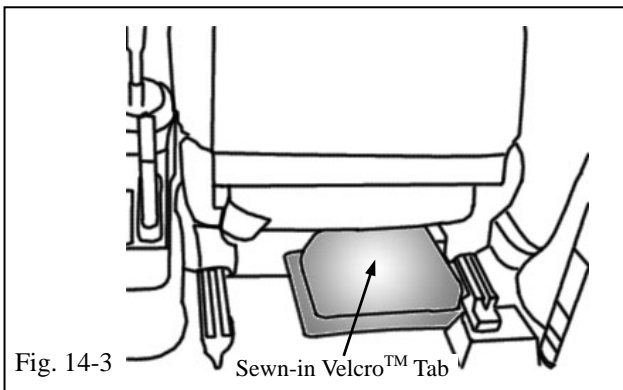

Fig. 14-3
- (g) Press the sewn-in Velcro™ tab on the top underside of the cover firmly to the satellite receiver. (Fig. 14-3).